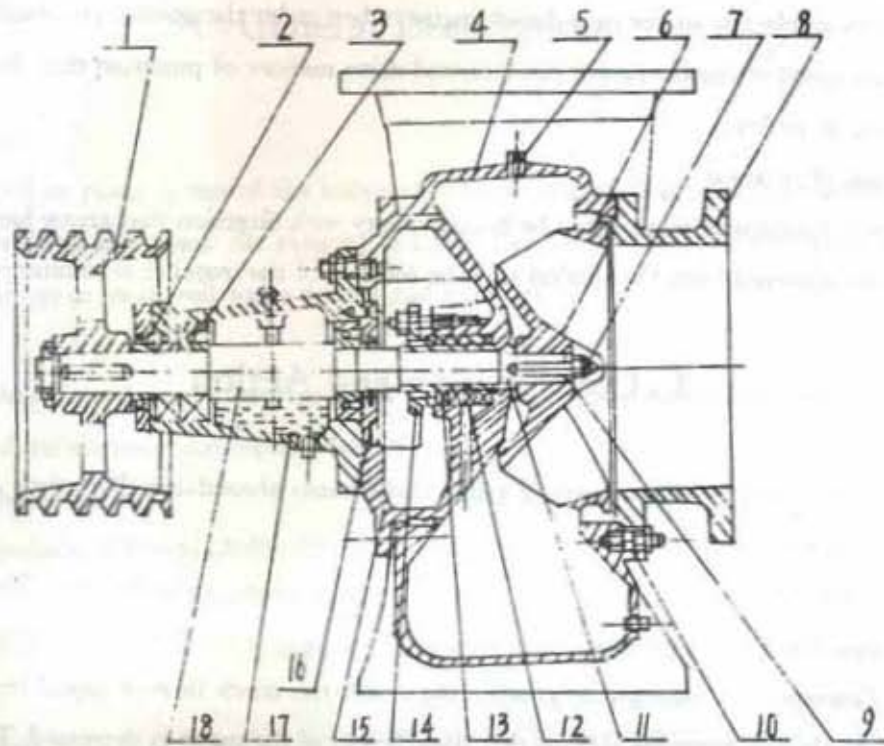
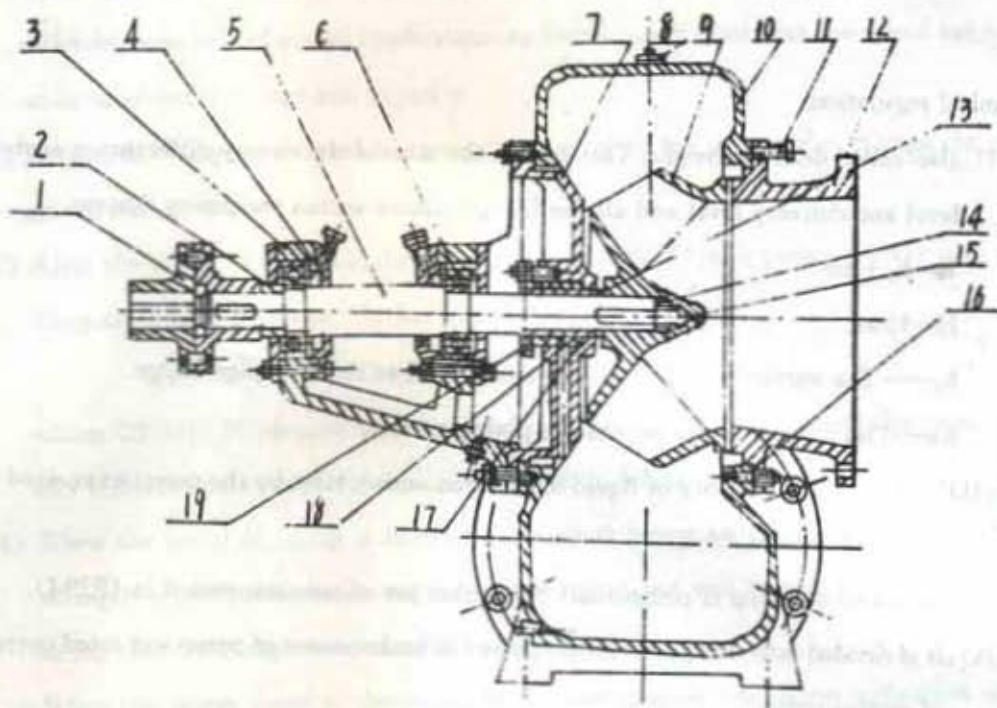

Figure 1 Vertical outlet type
Figure 2 Horizontal outlet type
6. The construction is shown in Fig. 1 and Fig. 2.